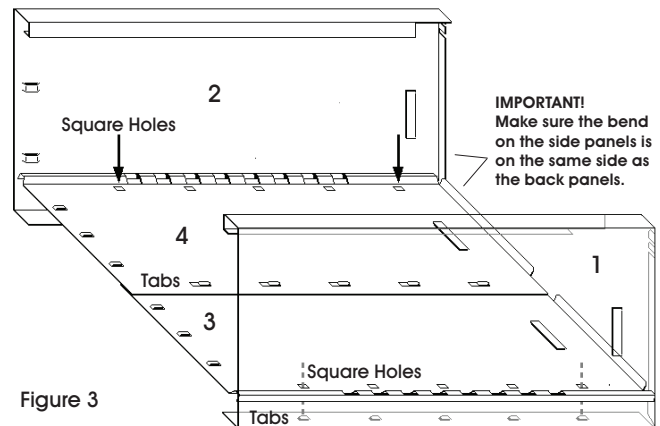

Figure 3
1. With the back panels laying on a flat surface, lift the outside edge of the right back panel (4) and slide the L-shaped bend of the right side panel (2) under it. (See Figure 3)
2. Insert locking tabs on the right side panel (2) into the matching square holes in the right back panel (4). (See Figure 3)